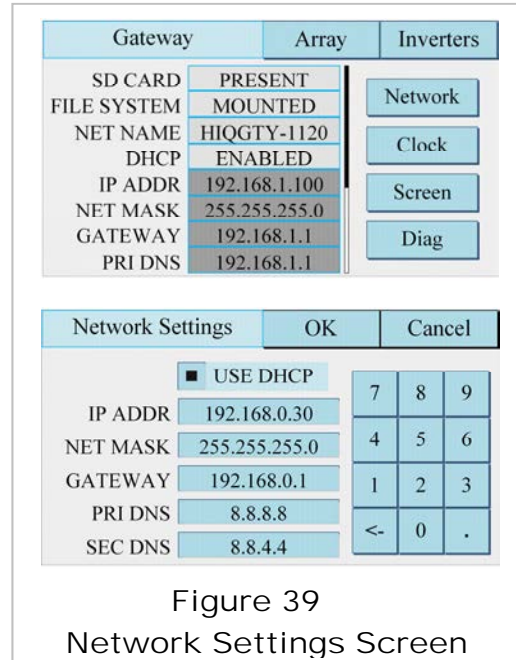

Figure 39
1. Select the **Gateway** tab. Use the **Network** button to open the **Network Settings** screen as shown in Figure 39.
2. Open a web browser. Type the **NET NAME** into the address bar. In Figure 39, this is **HIQGTY-1120**.
The listed IP address can also be used. In Figure 39 the address is **192.168.1.100**, but this will vary². This will bring up the web login screen. Unless otherwise altered, the following will apply (case sensitive):
² Note that this IP address is for the web page provided by the web server. The network connection the Gateway uses to communicate to a local router is the one further down the list labeled **GATEWAY**. In Figure 39 this is 192.168.1.1.